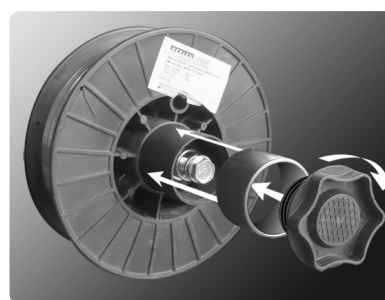

fig.9
4.9.2. Unscrew the locking knob from the end of the spool holder (see fig.7C) and remove the spacer. Slide the reel of wire onto the spool holder and ensure that the clutch pin at the back of the spool holder (E) engages into the guide hole in the wire reel moulding. This will prevent the wire reel from freewheeling on the spool holder. Slide the spacer onto the spool holder and retain it by screwing the knob into place as shown above in fig.9. Ensure that the wire is coming off the bottom of the reel in the direction of the wire drive unit as shown in fig.10.